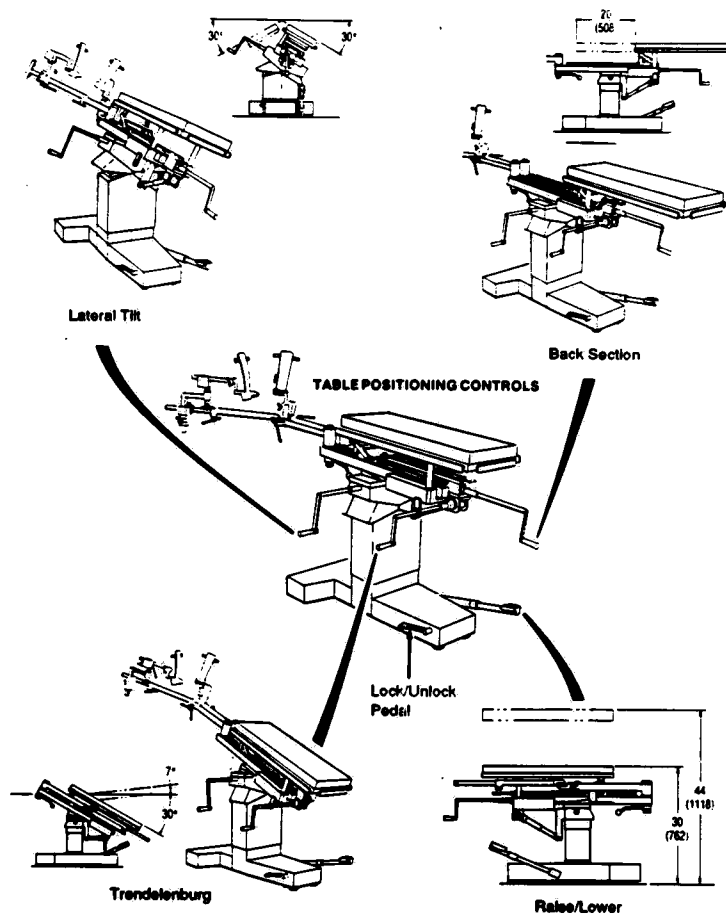

Figure 2-2. ORTHOGRAPHIC TABLE (T-BASE)
2.4 TABLE POSITIONING (Figures 2-2 and 2-5)